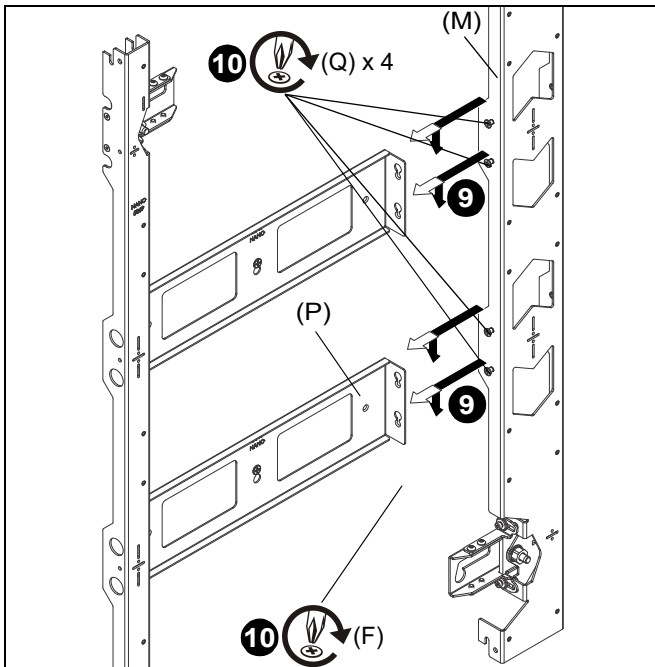

Figure 6
9. Hang middle upright (M) or right upright (N) onto side of spacer plate (P) using screws loosely installed in Step 6. (See Figure 6)
10. Tighten screws holding uprights (L, M or N) to spacer plate (P). (See Figure 6)